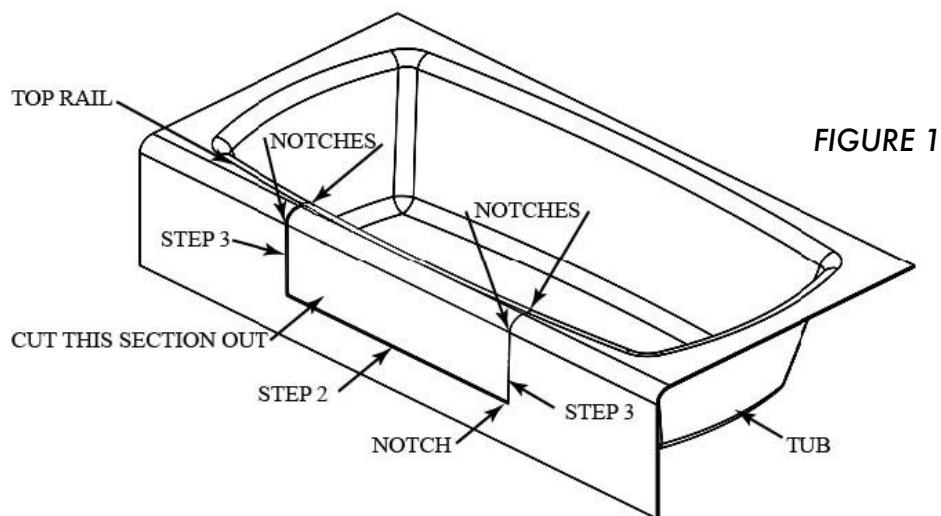

FIGURE 1
1. The first corner notches will be made with the side grinder as illustrated in Figure 1 below.